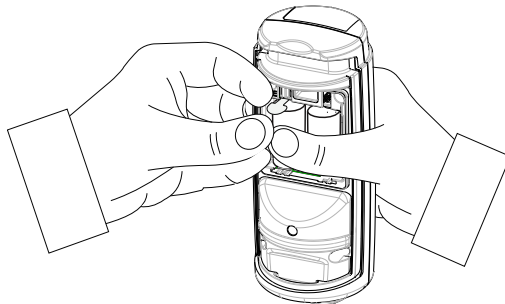

Figure 13 - Pulling the battery tab
**Note:** If the batteries are already installed, pull the battery tab while holding the batteries in place (see Figure 13).